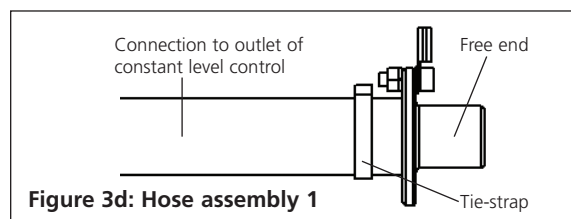

Figure 3d: Hose assembly 1
- Refer to fig. 3d. Carefully attach the end of the short 16mm bore hose of hose assembly 1 to the outlet of the constant level control. From the hose kit take the 1000mm length of 16mm bore hose and attach to the free end of the earthed spigot. For ease of connection, first warm the end of the hose with hot water. Secure with the tie strap provided.